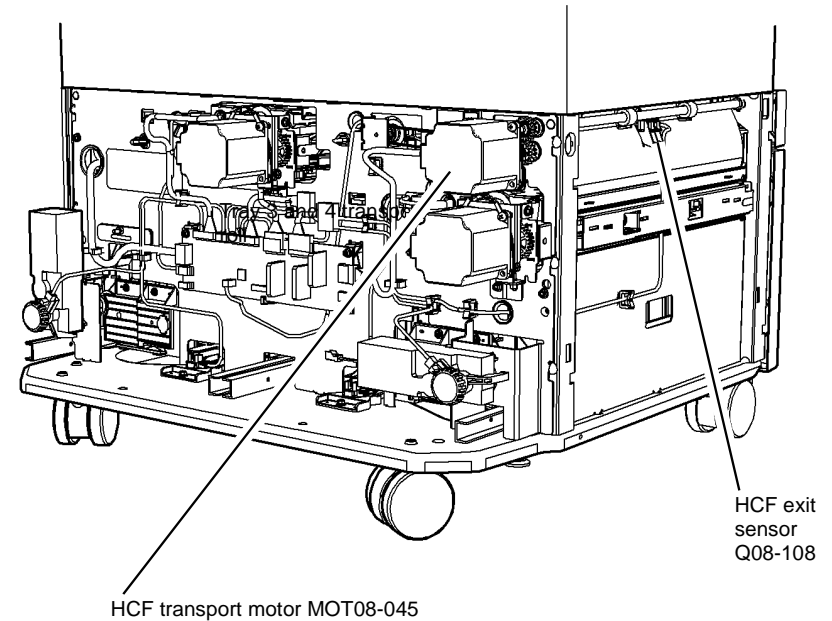

Figure 1 Component location
- Check the registration sensor actuator and the wait sensor actuator, **Figure 1**.